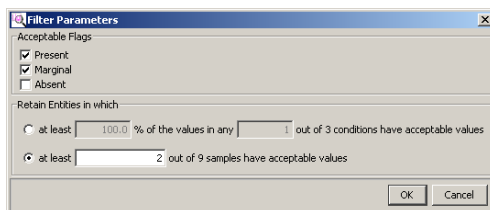

Figure 45 Filter Parameters dialog box
- 2 Click **Re-run Filter** to enter parameters in the **Filter Parameters** dialog box (Figure 45 on page 103).